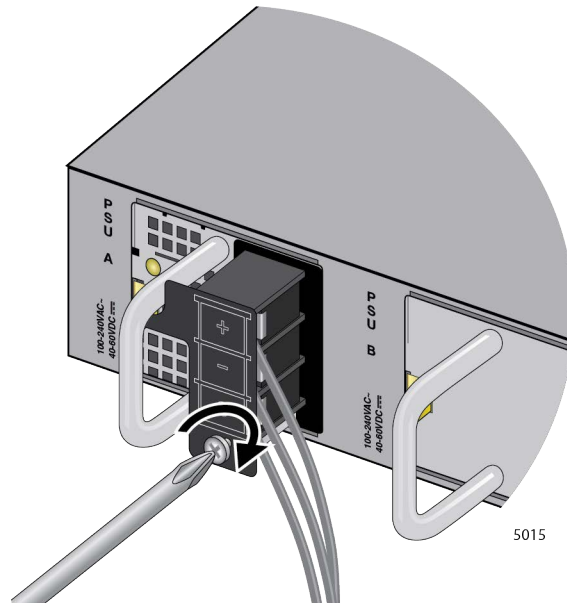

Figure 73. Tightening the Screw for the Cover Panel
9. Tighten the screw for the cover panel. Refer to Figure 73.